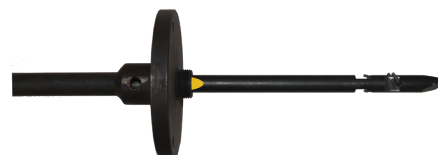

Figure 14
3.3.8) Align the pilot drill flat with the Allen-head set screw and insert the pilot drill through the center of saw mandrel stud (see Figure 14).